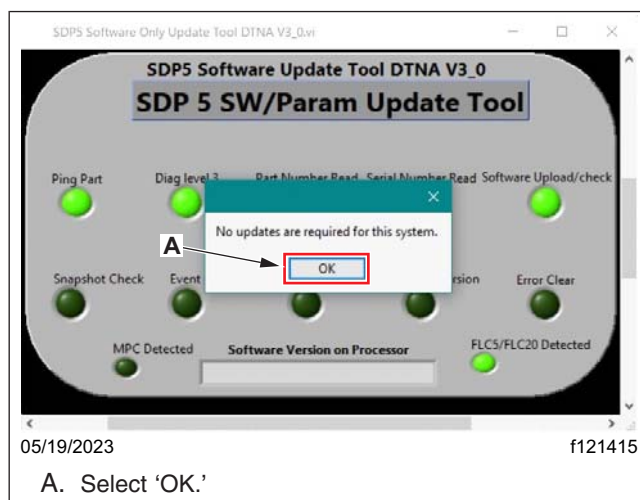

Fig. 28, Software Already Updated
14. If the SDP5 software is already updated to 2.6.30, the message 'No updates are required for this system.' is displayed, as shown in Fig. 28. Select 'OK,' and close the SDP5 Software Only Update Tool. Proceed to step 19.